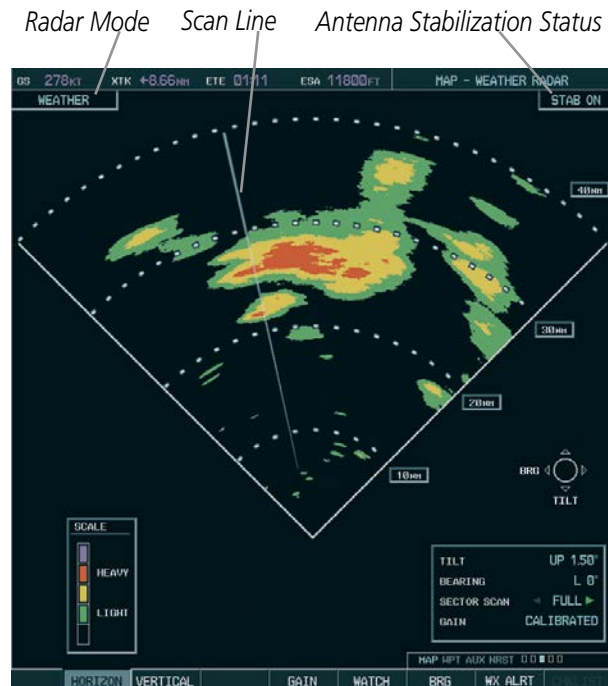

Figure 6-101 Horizontal Scan Display
- 5) The horizontal scan is initially displayed (Figure 6-101). If desired, select the **VERTICAL** Softkey to change to vertical scanning.